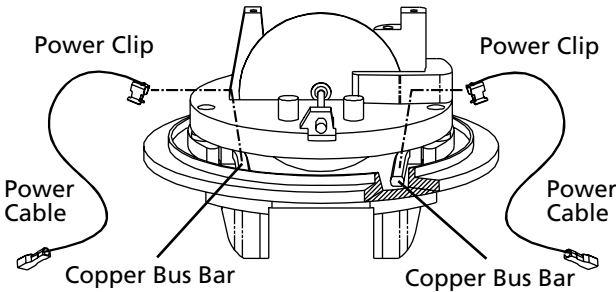

Figure 27. Attaching Power Cables to Non-AMR Ready Meter
3. If you have an AMR Ready meter, go to step 4. If your meter is not AMR Ready, attach the power clips to the copper bus bar on the inside of the meter using needle-nose pliers (see Figure 27). Then, go to step 5.